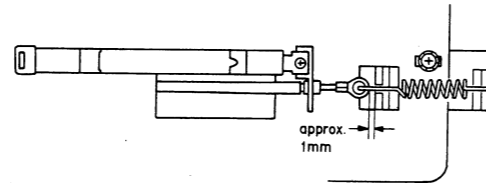

Fig. 5.15.2
- (3) Set the N-580 in record and pause mode. Check to insure that the gap between the top of the wire and the Record Spring Holder is approx. 1 mm as shown in Fig. 5.15.2. (Check that the Record Switch is in record position.)
- (4) Upon completion of the above adjustments, apply a quantity of lock tight paint.